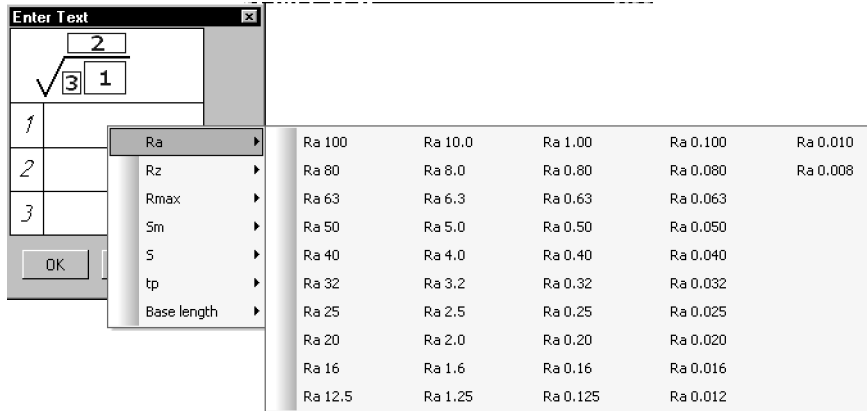

Fig. 12.1. User menu for text input in Roughness Symbol
- ▼ working with dialog for entering special character text (Fig. 12.1), geometric tolerance, etc.